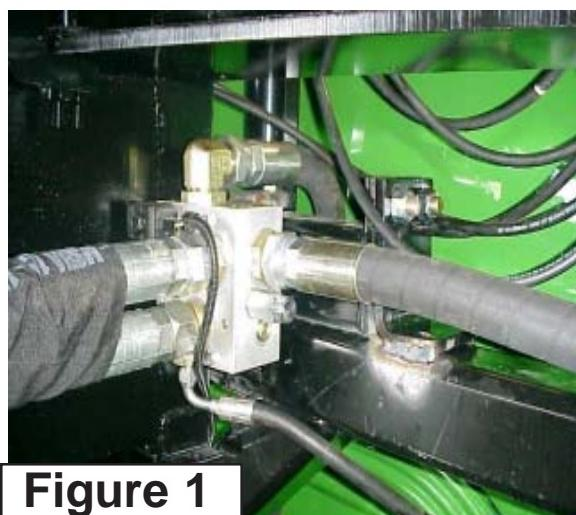

Figure 1
1. Cutter Motor Control Valve Asy. Install the Cutter Motor Control Valve Asy to the LH side of High Frame, it will not have the Hoses attached as shown, the Hoses will be connected later (**See Figure 1**)